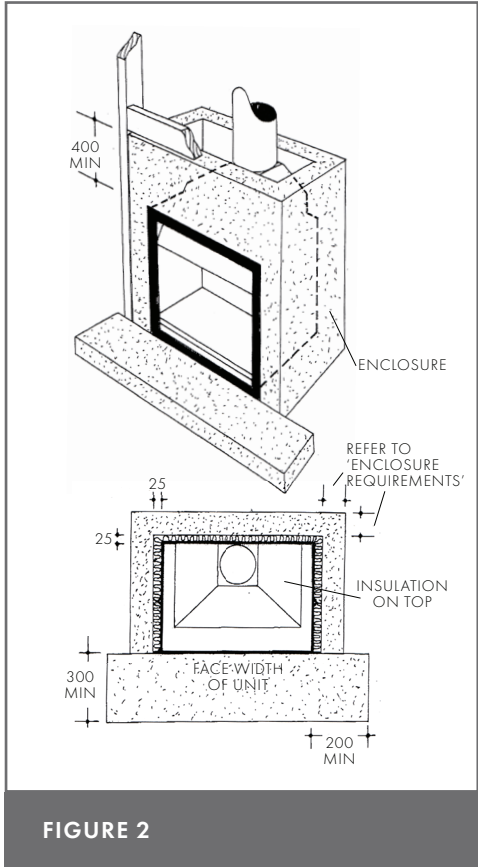

FIGURE 2
2.2. Enclosure Requirements (Fig 2) 3
2.2. ENCLOSURE REQUIREMENTS (FIG 2)
The enclosure must be of non-combustible materials i.e. masonry, 75mm Hebel blocks or equivalent material as otherwise specified by the manufacturer. The enclosure must completely surround the sides, back and breast above the unit, as shown in Fig 2. Place the insulation on top of the units gather and tuck into enclosure.
5. If installing with Zero Clearance Box, skip to Step 6. If installing into masonry, construct enclosure as required and place the insulation provided on top of unit, gather and below optional brickwork lintel. (Refer "2.2. Enclosure Requirements (Fig 2)" on page 3)